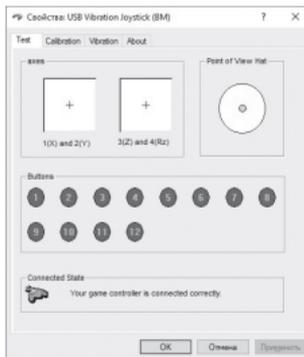

Fig. 9
- To check and configure in DirectInput mode, select Properties in the Game Devices window, and the Properties: USB Vibration Joystick (BM) window pops up. In the «Test» tab, you can check the execution of commands when you press the buttons and rotate the joysticks, and also check whether the joystick is connected to the PC in the «Connected State» line (Fig. 9).